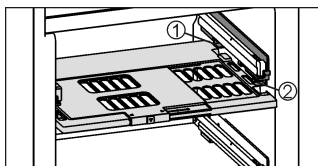

Fig. 12
- ▶ To insert the humidity control plate: Insert the guide pieces of the plate into the rear retainer *Fig. 12 (1)* from below, then snap the plate into the retainer *Fig. 12 (2)* in the front.